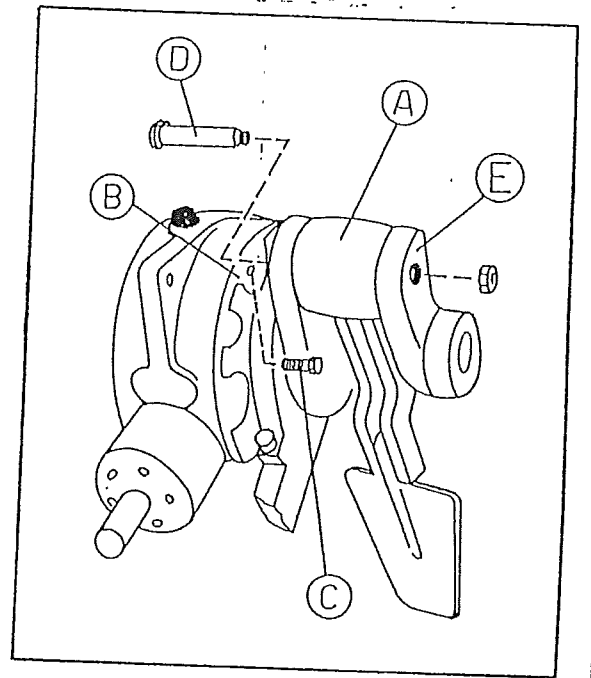

FIG. 7
- b) (see **fig.7**) Bring the crank (**A**) in correspondence of the gearbox's recess (**B**) (Recess **B** is oversized in comparison with the box's other recesses).